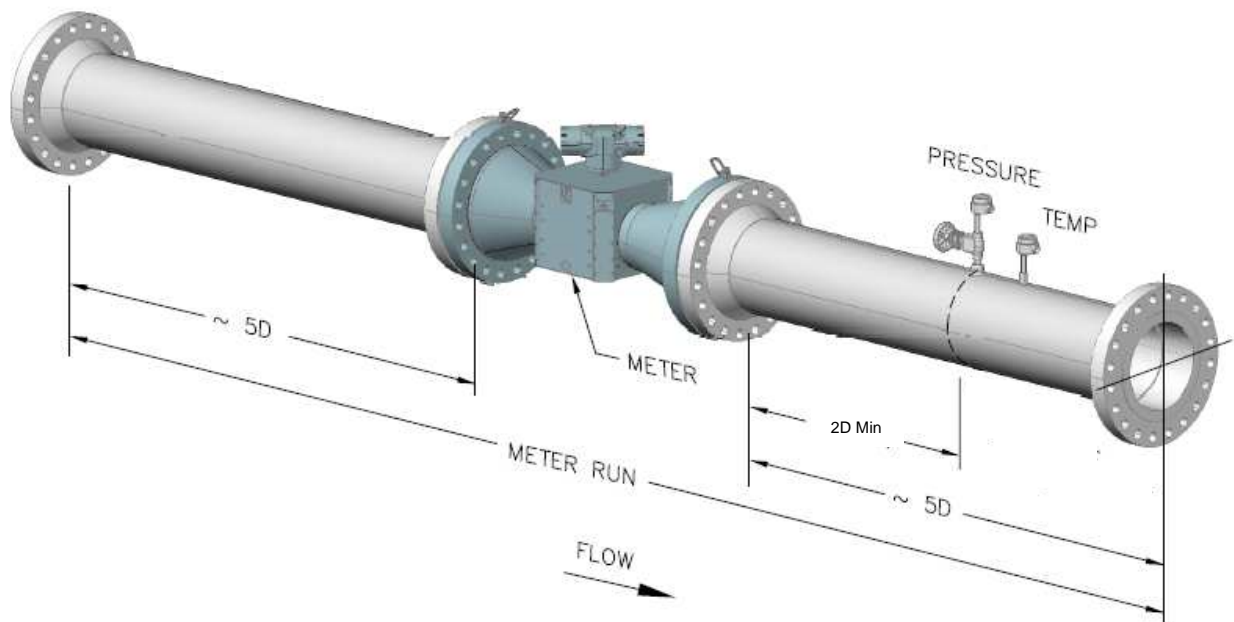

Figure 2-3 280Ci and 280CiRN Best Practice for Installation Hydraulics
- The adjoining straight pipe should be of the same schedule as the meter. Temperature elements and pressure connections should be located downstream of the meter. The LEFM 280Ci, 280Ci-R, and 280CiLT do not normally require the use of a flow conditioning element. An uninterrupted upstream pipe 5 pipe diameters in length is adequate in most applications. In situations where there is a constriction upstream of the meter that is smaller than the diameter of the meter run piping (such as a reduced bore valve), it is recommended that this be separated from the meter by a pipe at least 15 pipe diameters in length. Downstream of the meter there should be an uninterrupted pipe at least 2 pipe diameters in length prior to any installed pressure or temperature elements. Refer to Figure 2-3 for details. For application specific recommendations or more detailed installation guidance, please consult Sensia.